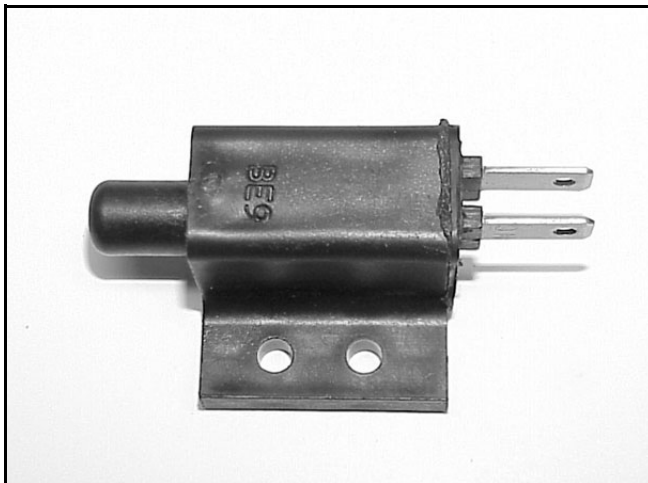

Figure 40
3. Depress the plunger on the switch and check the continuity across the terminals, there should be NO continuity (Figure 40).